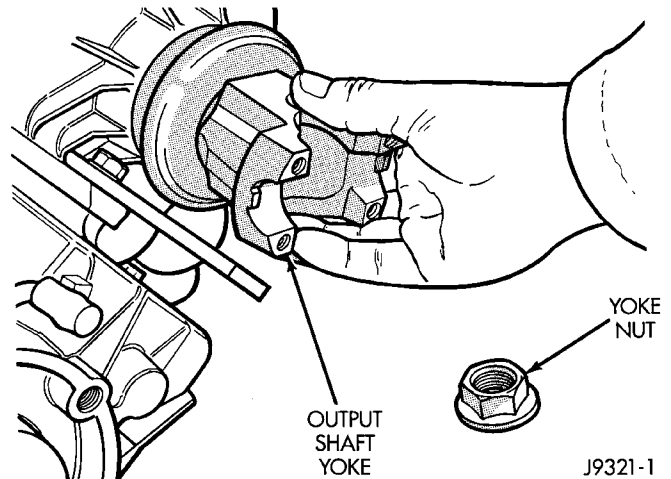
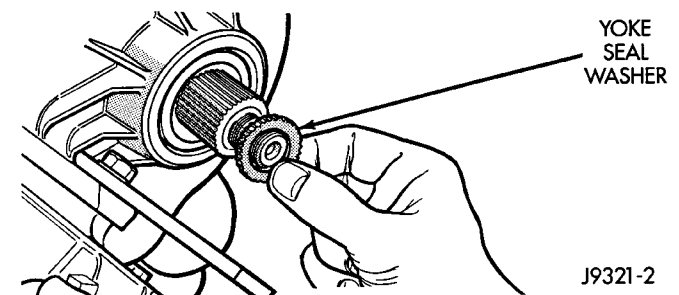

Fig. 73 Output Shaft Yoke Installation
Fig. 74 Yoke Seal Washer Installation
(3) Install new seal washer on front output shaft (Fig. 74).
(4) Lubricate yoke hub with transmission fluid and install yoke on front shaft.
(5) Install new seal washer on front shaft.
(6) Install yoke and new yoke nut on front output shaft (Fig. 73).
(7) Tighten yoke nut to 122-176 N·m (90-130 ft. lbs.) torque. Use Tool C-3281, or similar tool to hold yoke while tightening yoke nut.